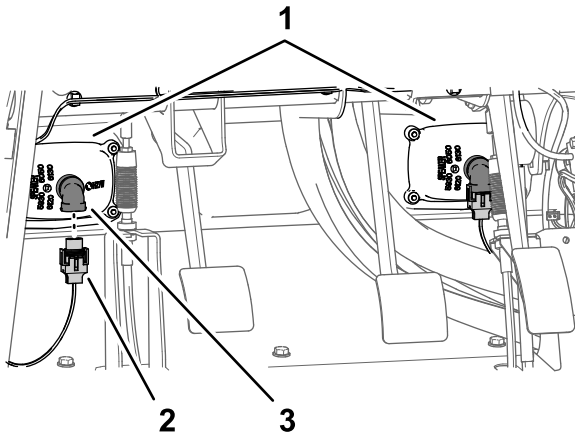

Figure 14
1. Disconnect the 2 electrical connectors (2-socket) of the machine wire harness from the 2-pin connectors of the left and right headlights (Figure 14).